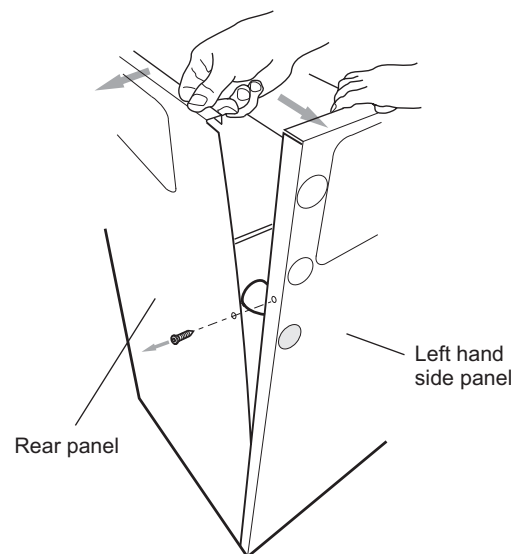

Fig. 18 - Remove the condensate trap
- 3 Carefully separate the left side and rear panels just enough to gain access to the condensate outlet on the left rear of the condensing heat exchanger (see Fig.18).